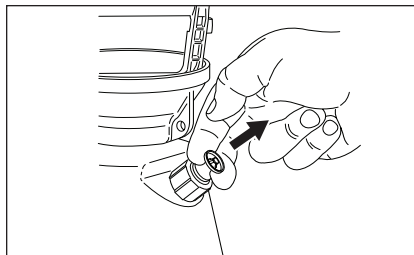

Figure 9. Release Tank Pressure
1. Pull up on the knob of the pressure release valve until all the pressure is released from the tank. See Figure 9.